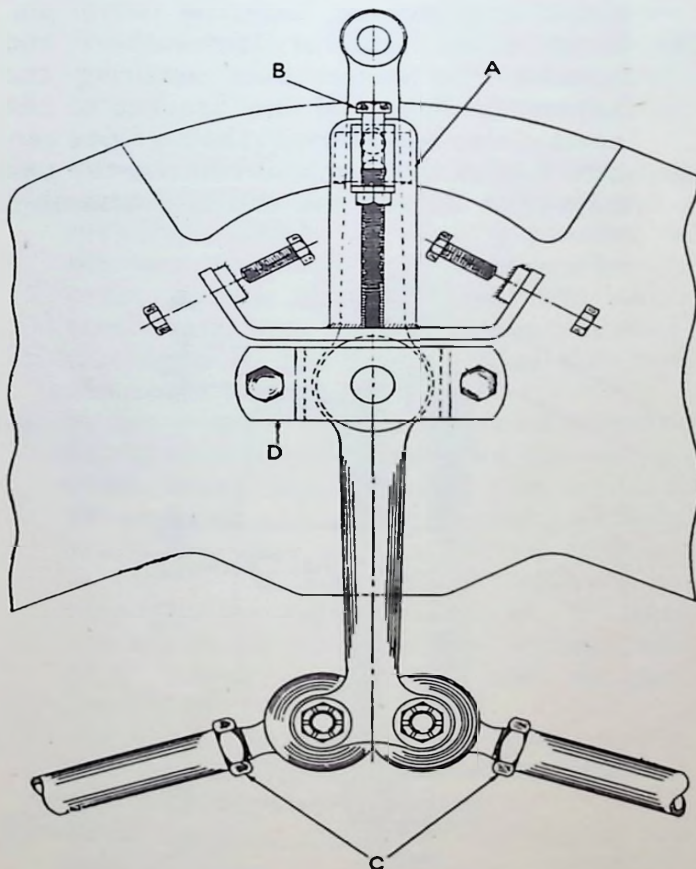

Fig. 2. Method of Using Steering Arm Locating Jig.
- (1) Check that the front tyres are inflated from 26 to 28 lbs. per square inch and set the front wheels in line with the rear wheels.
- (2) Jack both wheels clear of the ground.
- (3) Check that the Thompson Joints, or sockets at the ends of the track rods between the steering arms and the central steering lever are in good condition, i.e., without undue free movement.
- (4) Remove the lock stops and fit the central steering arm locating jig, Service Part No. 24082N, see Fig. 2, page D3 Tighten adjuster "B" with bridge "A" over lever shank, this will centralise lever with centre line of car.
- (5) Release the locknuts "C", Fig. 2, at each end of centre tube of the track rods. The inner and outer ends of the tie rods